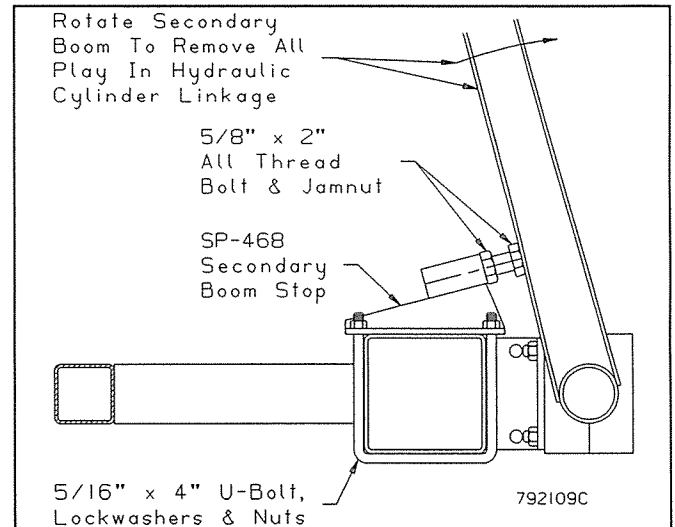

Figure 2.2j: Secondary Boom Stop Adjustment
14. With secondary booms in raised position and hydraulic cylinders fully charged, force secondary booms back by hand at hydraulic cylinder, this will remove all play in the cylinder linkage. Adjust the 5/8" bolt on the secondary boom stop out to the secondary booms in this position. This will not allow the secondary booms to move over 15° and help keep secondary booms in phase, Figure 2.2j.
3. Position horizontal bubble to level, check distance between truss member and level as shown in Figure 2.2j. Refer to chart for wing boom angle.